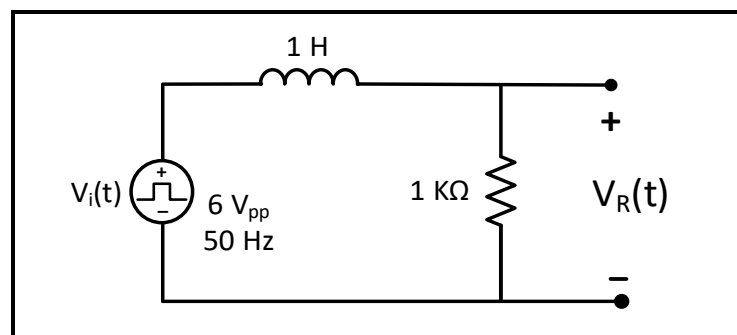

Figure 5.8
5. **Repeat steps 1-4 for the circuit of Figure 5.8**, but this time showing $V_R(t)$ instead of $V_L(t)$, and estimating the value of τ_R .